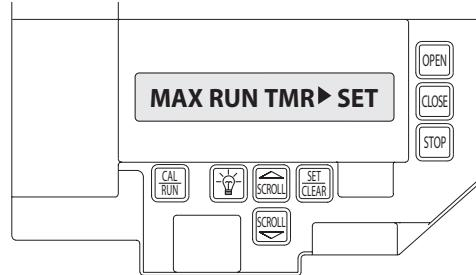

Figure 11
- 2) Press SCROLL  (up or down) until display reads "MAX RUN TMR > SET." **Fig. 11.**